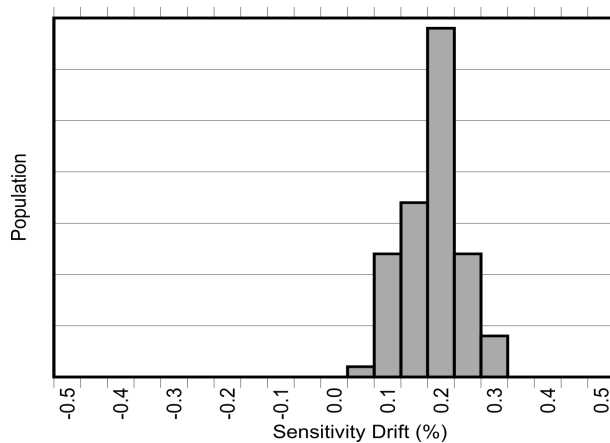
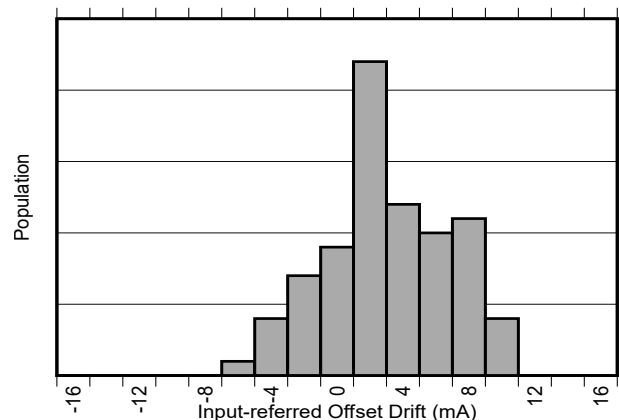

Figure 8-2. Sensitivity Error Drift After AEC-Q100 High Temperature Operating Life Stress Test
Figure 8-3. Input-Referred Offset Drift After AEC-Q100 High Temperature Operating Life Stress Test
In addition to large thermal drift, typical magnetic current sensors suffer an additional 2% to 3% drift in sensitivity due to aging over the lifetime of the device. The same proprietary compensation techniques used in the TMCS1123 to reduce temperature drift are also used to greatly reduce lifetime drift due to aging from stress and environmental conditions especially at high operating temperatures. As shown in the Electrical Characteristics, the TMCS1123 has industry leading lifetime sensitivity drift realized after Highly Accelerated Stress Tests (HAST) at 130°C and 85% relative humidity (RH) during standard three lot AEC-Q100 qualifications. Low sensitivity and offset drift within the bounds specified in the Electrical Characteristics are also observed after 1000 hour, 125°C high temperature operating life stress tests are performed as prescribed by AEC-Q100 qualifications. These tests mimic typical device lifetime operation, and show device performance variation due to aging is vastly improved compared with typical magnetic current sensors. Figure 8-2 and Figure 8-3 show the sensitivity and offset drift after a 1000 hour, 125°C high temperature operating life stress test as specified by AEC-Q100. Device operational performance varies over the lifetime of the device. This test mimics typical device lifetime operations and shows the likelihood of the device vastly improving performance compared to typical magnetic sensors.